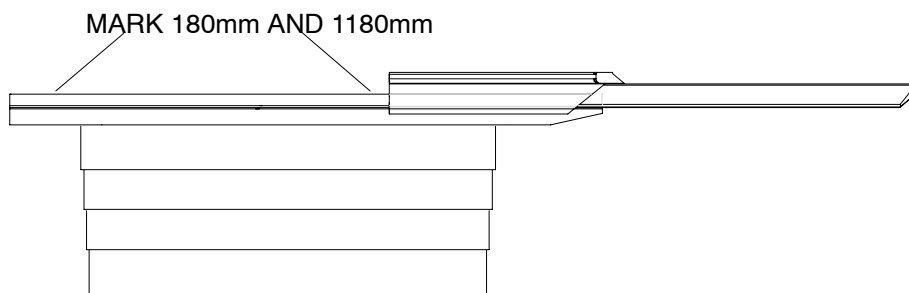

FIGURE 130 180mm and 1180mm COUCH MARKINGS
8. Press **1** to continue. Push the couch toward the scan frame and mark two positions from the back seam of the patient support with a pencil: 180mm and 1180mm. Refer to Figure 130.